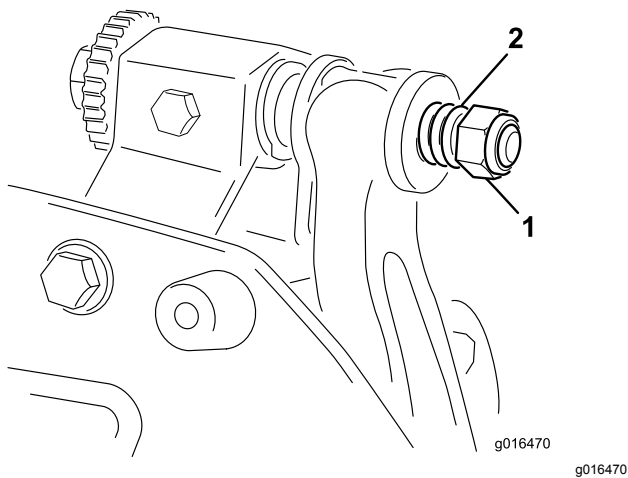

Figure 24
6. Tighten the spring tension nut until the spring is collapsed, then back it off 1/2 turn (Figure 24).